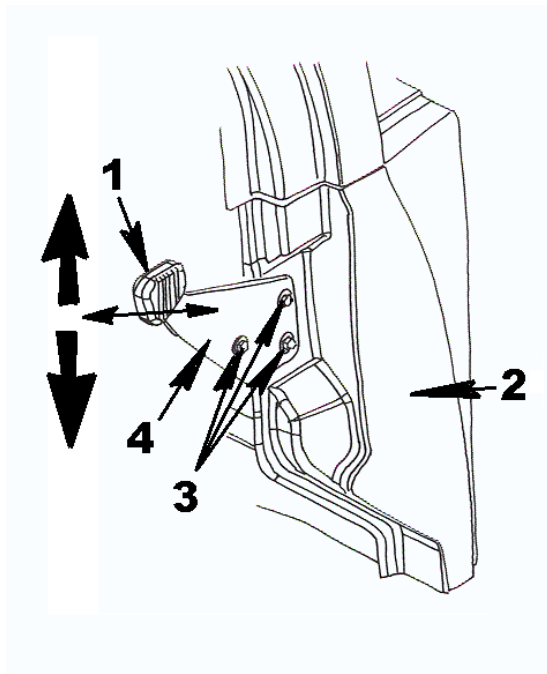

Figure 109 Hood Stop (Driver Side Shown)
3. Slide the bracket (Figure 109, Item 4) upward or down to set desired height.